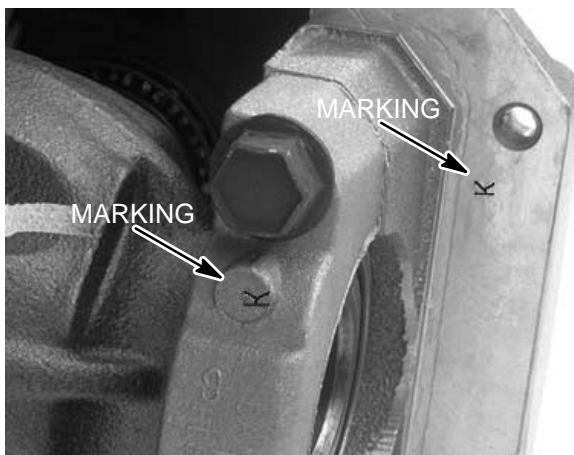

Figure 56
**IMPORTANT:** The bearing caps are marked for identification. Place caps back in the same position during reassembly (Fig. 56).
11. Secure bearing caps to their original positions on the bearing cradles with cap screws (11). Torque cap screws from 30 to 45 ft-lb (4.1 to 6.2 kg-m) (Fig. 56).